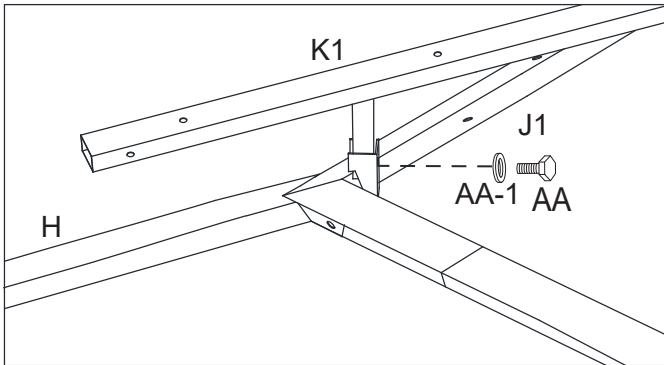

Figure 11-1
11.1: Secure the Roof Vent Frame to the Main Roof by inserting the Roof Vent Corner Supports (K1) to the Top Frame (J1) on the Main Roof using Bolts (AA) and Steel washer (AA-1). See Figure 11-1.